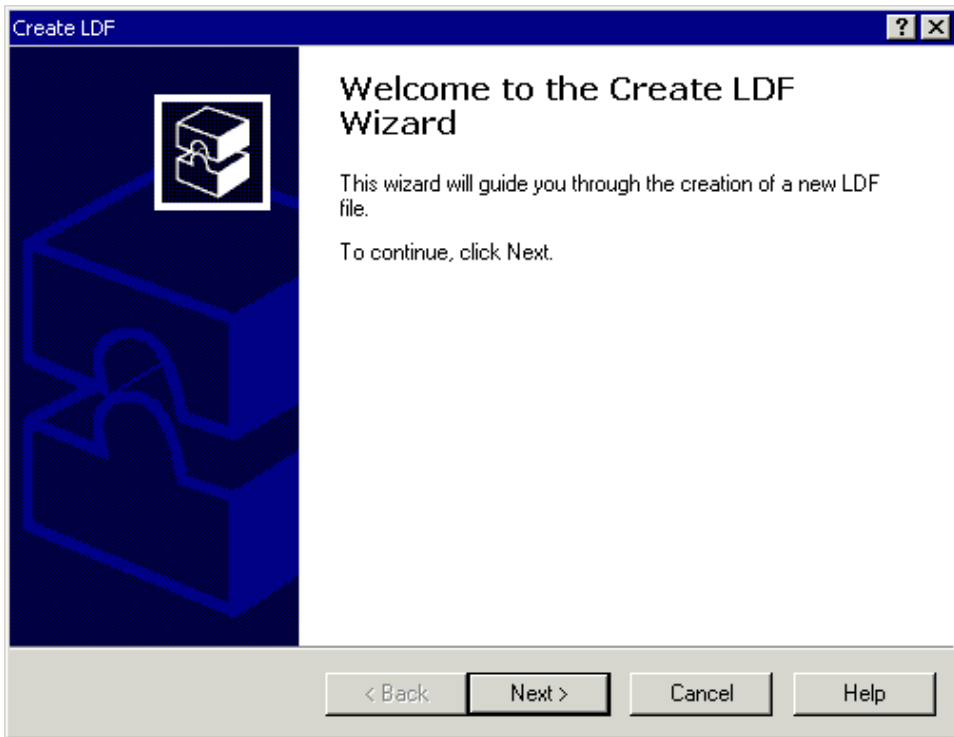

Figure 2-14. Create LDF Wizard
1. From the **Tools** menu, choose **Expert Linker** and then choose **Create LDF** to open the **Create LDF Wizard**, shown in Figure 2-14.